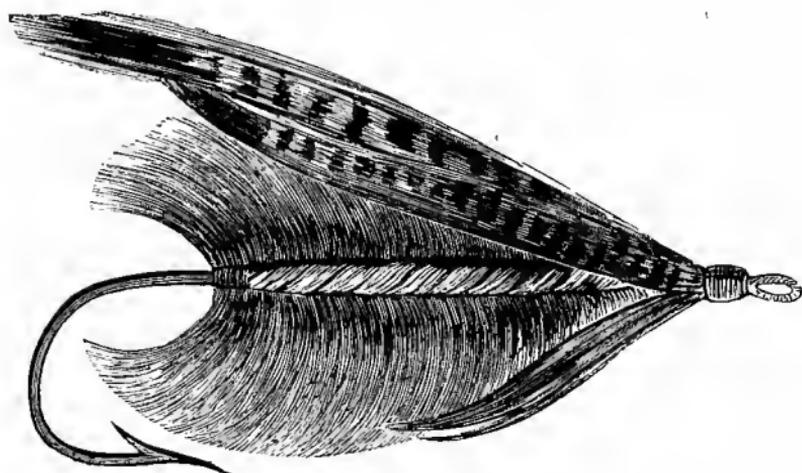

Fig. 252.—The Spey Dog.
*The Spey Dog.*—I am indebted to Mr. Francis' "Book on Angling" for the representation of the Spey Dog (Fig. 252), as well as the dressing which he gives, as follows: Body, black pig's wool, up this is then wound some broad silver tinsel in widish rings, over the tinsel is laid on a large black feather (it cannot be called a hackle) with a lightish dun tip, taken from the side of a Scotch cock's tail—the feather is dressed the wrong way, so that the hackle